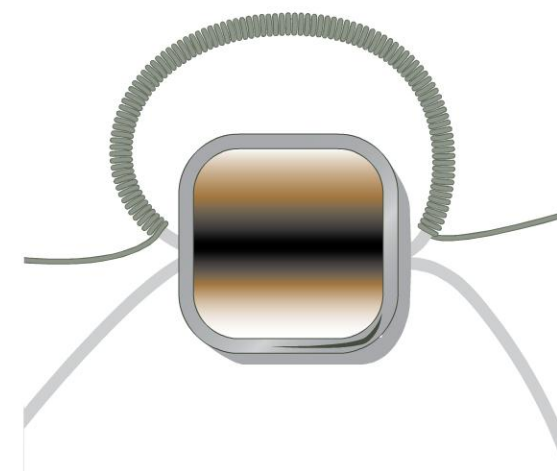

figure 2
- 8** Pull both 22-gauge wire ends until the frame is against the coil, keeping the coil centered so there are equal lengths of wire on each side of the frame and bead (Figure 2).